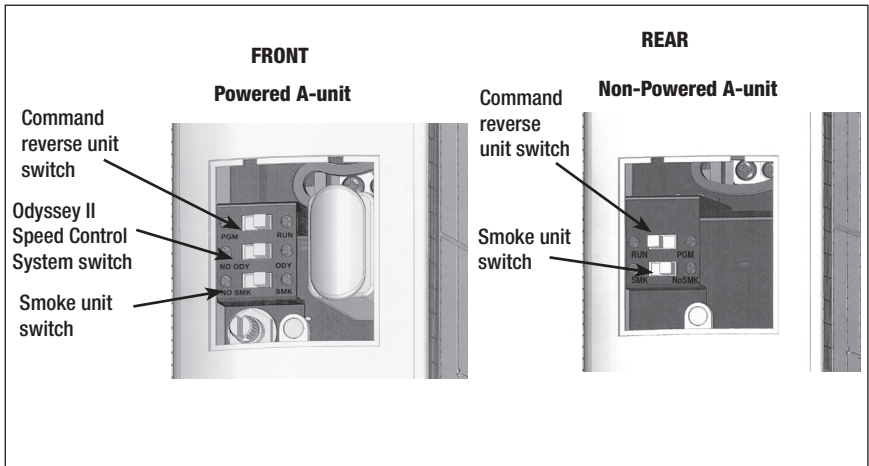

Figure 4. Switch locations (under roof hatch)
**Note!** Power your locomotive set with an alternating-current (50-60Hz AC) transformer only. Powering your locomotive set with a direct-current (DC) transformer, or in excess of 19 volts AC, may result in damage to sensitive electronic components.
**We recommend that you operate your LEGACY locomotive set with Odyssey II Speed Control turned on.** You may choose to operate your locomotive set without speed control by placing the Odyssey II Speed Control System switch to the NO ODY position. See Figure 4 on page 8 for the location of the switch.
If you prefer to operate your locomotive set without smoke, locate the smoke unit switch on each locomotive and slide it to the NO SMK position. Refer to Figure 4 on page 8 for the location of these switches.
The functions of your locomotive set's switches are outlined below. Refer to Figure 4 for the location of the switches. **The instructions below are specific to this particular locomotive set; note that available features (and switches) may differ from other locomotives and sets.**
- 1. Slide the Command reverse unit switch on your locomotive to the PGM position. See Figure 4 on page 8.**